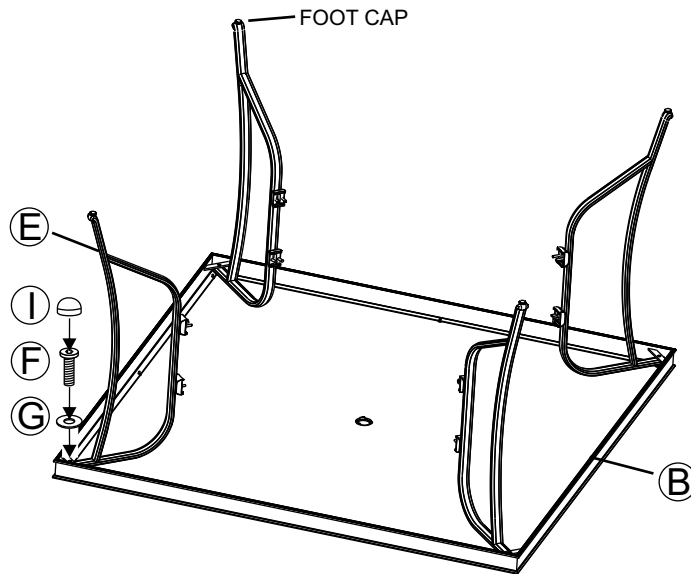

Figure 1
- 1 Place the table rim upside down on a flat, non-abrasive surface. Attach the table legs to the table rim by using four bolts and washers as shown in **Figure 1**. Guide the bolts through the holes in the table leg into the pre-drilled holes in the table top. **Hand tighten only 2-3 turns.**